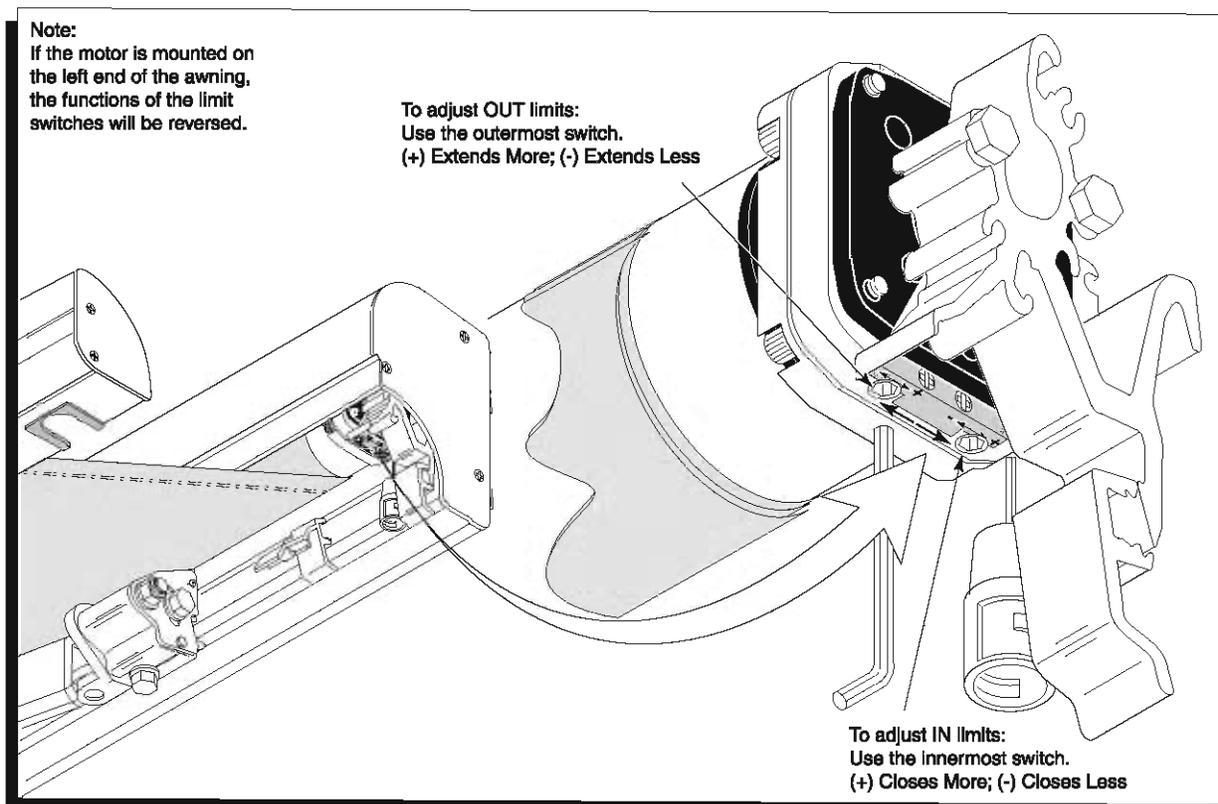

FIGURE 5
4. Adjust limits according to the directional arrows (see Fig. 5 callout). A 1/4 turn represents approximately 1" of awning movement. **Never set outward limits so that fabric is slack after full arm extension.** Adjust limit switches until the motor stops at the exact time that the arms lock into position.